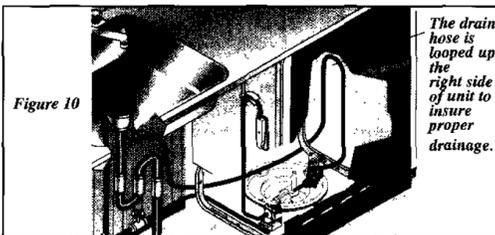

Figure 10
3. Be sure unit does not rest on drain hose. It should be free of electrical components and door springs. Do not cut corrugated drain hose. Pull excess through cabinet and place under sink. Make sure hose does not come in contact with any sharp edges. See Figure 10.